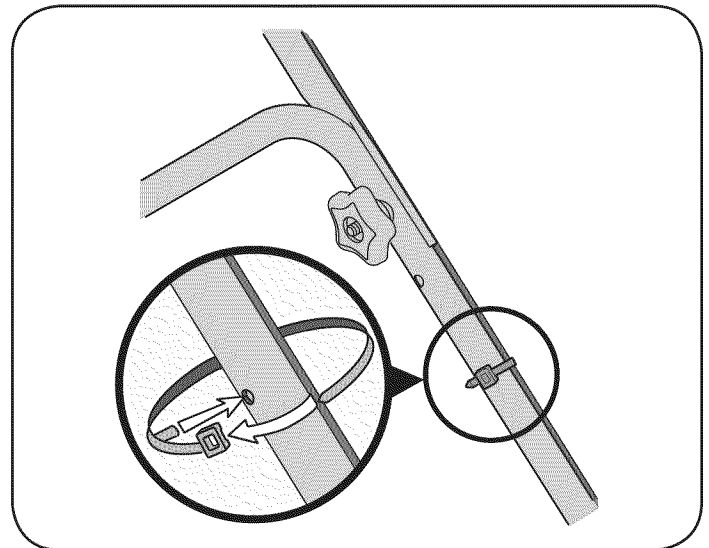

Figure 4
4. Insert post on cable tie into hole provided on the lower handle. Pull cable tie tight and trim excess. See Figure 4.